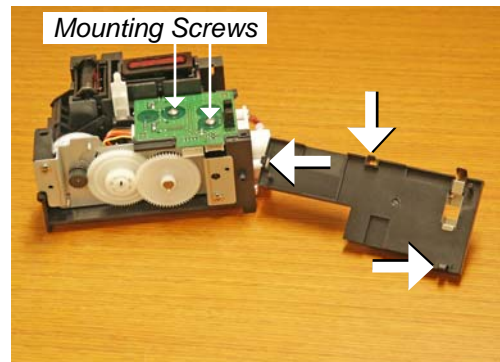

Figure 5-17B Sensor Board Cover Removed
2. Unsnap plastic cover (see Figure 5-17B).